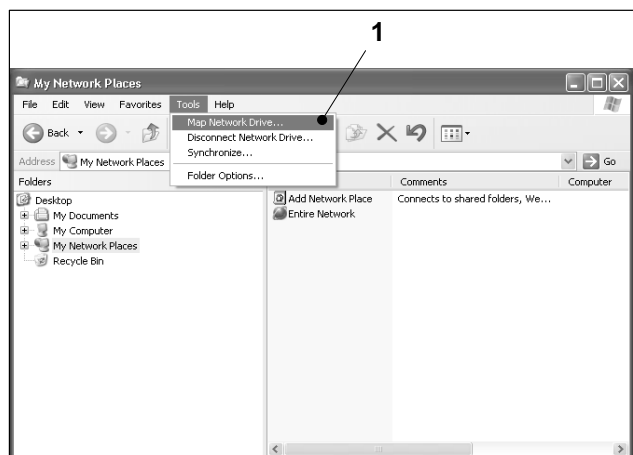

Fig. 7 Windows XP Explorer
The dialog box shown in Fig. 7 opens.
2. In the *Tools* menu, select the submenu *Map Network Drive* (Fig. 7/1).
You return to the Windows XP Explorer (Fig. 7). The newly connected network drive has been inserted in the left section *Folders* under the selected drive letter.